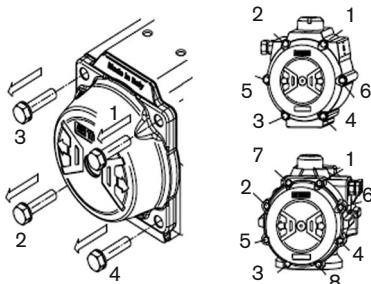

Fig. 9: Installation of the covers
- Insert the cover screws (Pos. 13) and tighten according to the sequence (see Fig. 9.:)